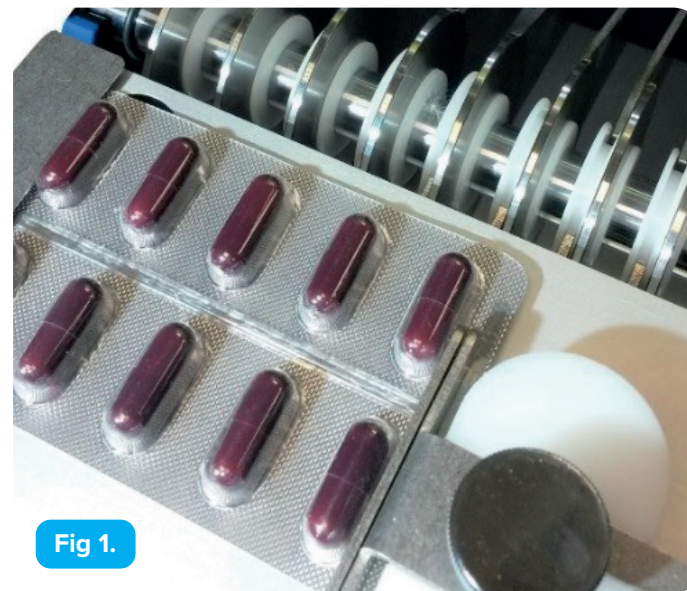

Fig 1.
- Capsules, caplets and ovals should be fed pointed end first, see capsule picture Fig 1.
Fig 1. Place the blister on the bed of the Stripfoil so the left hand product row is tight against the guide. Rotate the wheel adjustment knob so the wheels are positioned between the product rows and also support the right hand edge of the blister.
Fig 1. Separate the individual wheels and position the right hand wheel in line with the right hand side guide. Tighten this with a 2mm hex key to fix it in place. Position the blister so the right hand product row is tight against the right hand guide. Move each wheel individually so the blister is supported on either side of each product row and also supported at the left hand edge of the blister. It may be necessary to have two wheels between product rows. Fix the wheels in place using the hex key.